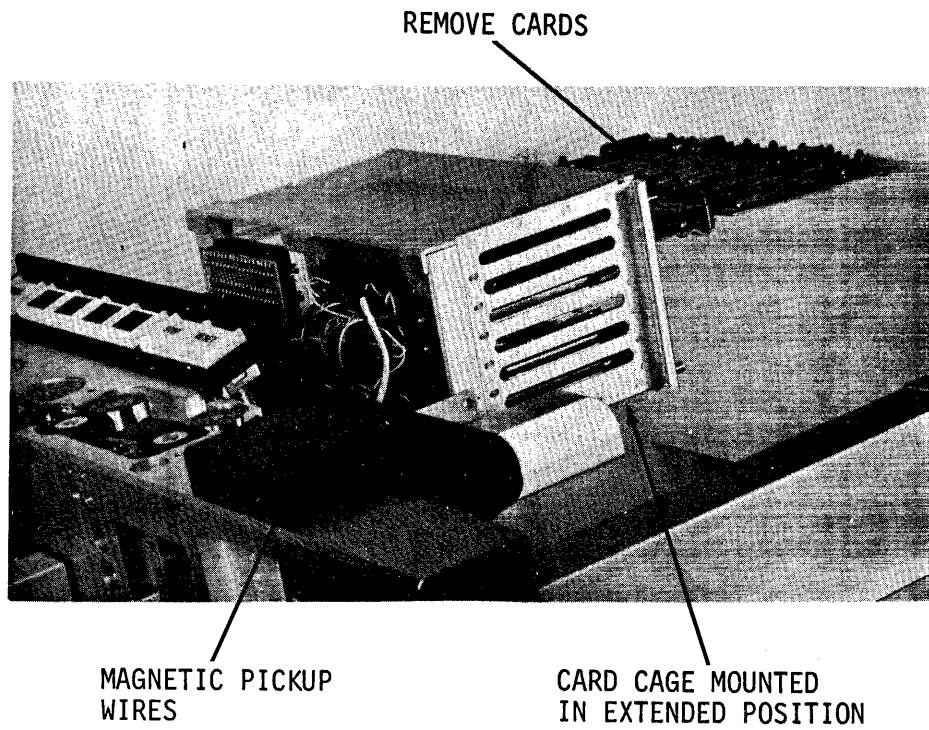

Figure 9-15. Card Cage in Extended Position
- g. Remove all cards from card cage using card extractor levers, figure 9-15.
Tag two magnetic pickup wires so that they can be identified with their proper position in the card cage connector, figure 9-15.
- d. Remove all cards from card cage using extractor levers, figure 9-15.
- f. Remove all cards from card cage using extractor levers, figure 9-15.